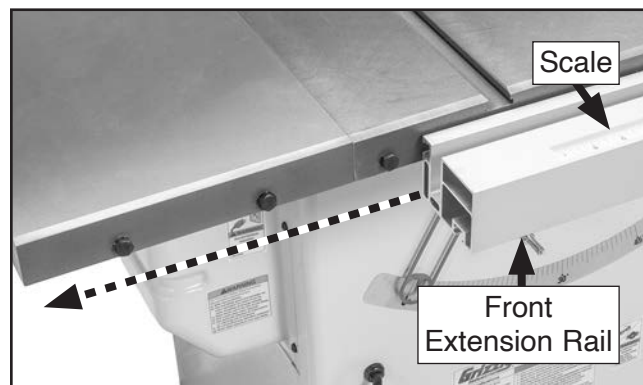

Figure 20. Front extension rail partially installed.
4. Slide front extension rail onto hex bolts installed in **Step 2** (see **Figure 20**). Ensure scale on front extension rail is facing up. Hand-tighten fasteners for now.